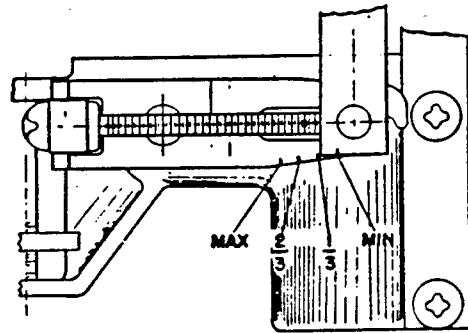

Fig. 2 Time-Adjustment Indexing
The tripping time may be varied within the limits shown on the characteristic curves by turning the time adjustment screw. (See figure 3.) Turning in a clockwise direction increases the tripping time; counter-clockwise motion decreases it. The dashpot arm (2), figure 3, is indexed at four points, MIN.-1/3-2/3-MAX., as indicated in figure 2. When the index mark on the connecting link (3), figure 3, lines up with a mark on the dashpot arm, the approximate tripping time as shown by the characteristic curve is indicated. The 1A and 1B characteristic devices are shipped with this setting at